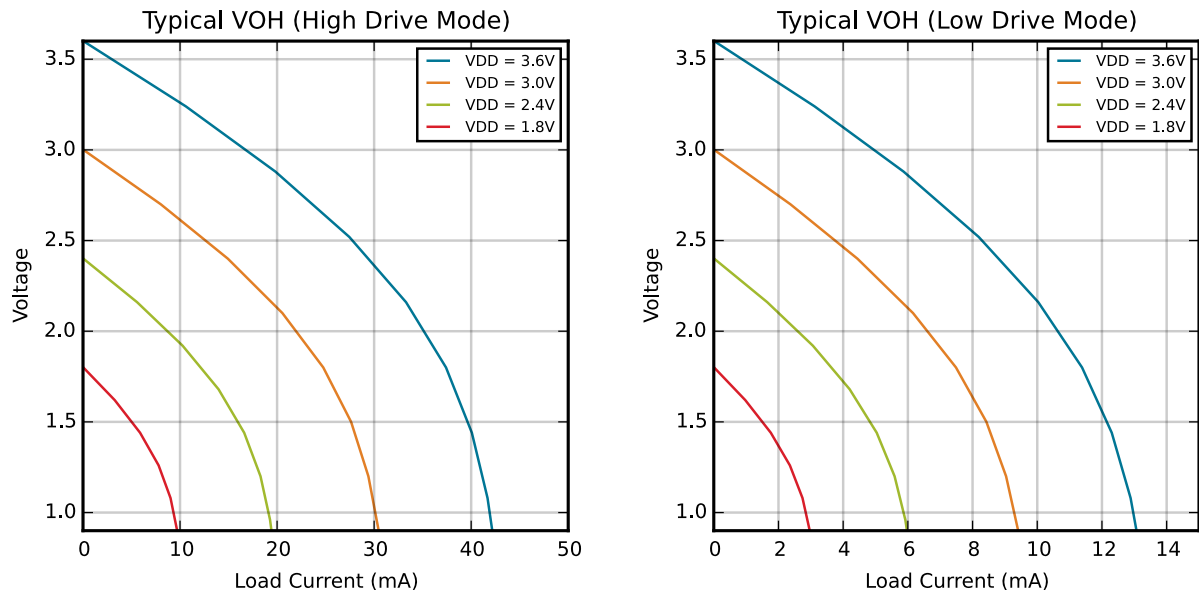
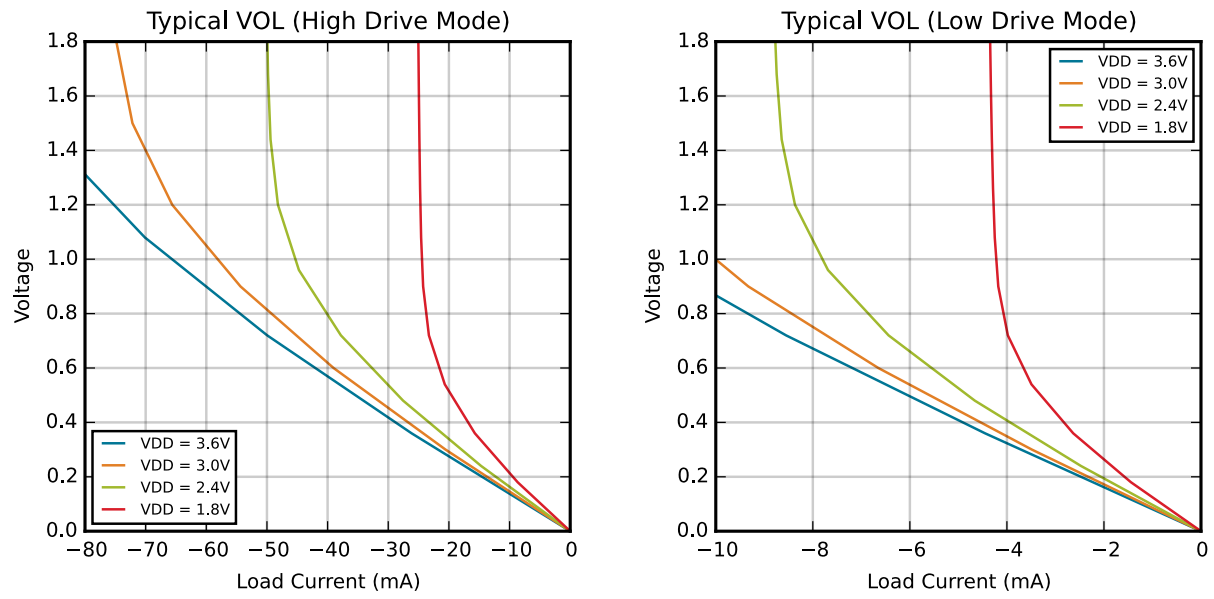

Figure 4.3. Typical VOH Curves
Figure 4.4. Typical VOL Curves
1. See Figure 4.3 Typical V_{OH} Curves on page 29 and Figure 4.4 Typical V_{OL} Curves on page 30 for more information.